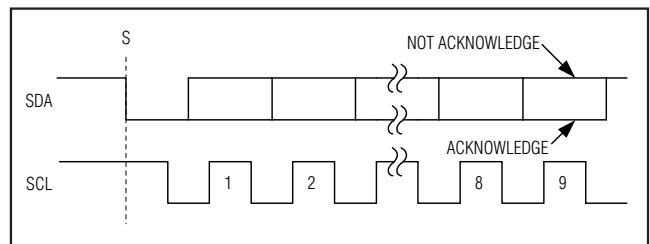

Figure 6. Acknowledge Bits
Data transfers are acknowledged with an acknowledge bit (A) or a not-acknowledge bit ($\overline{\text{A}}$). Both the master and the MAX11612-MAX11617 (slave) generate acknowledge bits. To generate an acknowledge, the receiving device must pull SDA low before the rising edge of the acknowledge-related clock pulse (ninth pulse) and keep it low during the high period of the clock pulse (Figure 6). To generate a not-acknowledge, the receiver allows SDA to be pulled high before the rising edge of the acknowledge-related clock pulse and leaves SDA high during the high period of the clock pulse. Monitoring the acknowledge bits allows for detection of unsuccessful data transfers. An unsuccessful data transfer happens if a receiving device is busy or if a system fault has occurred. In the event of an unsuccessful data transfer, the bus master should reattempt communication at a later time.